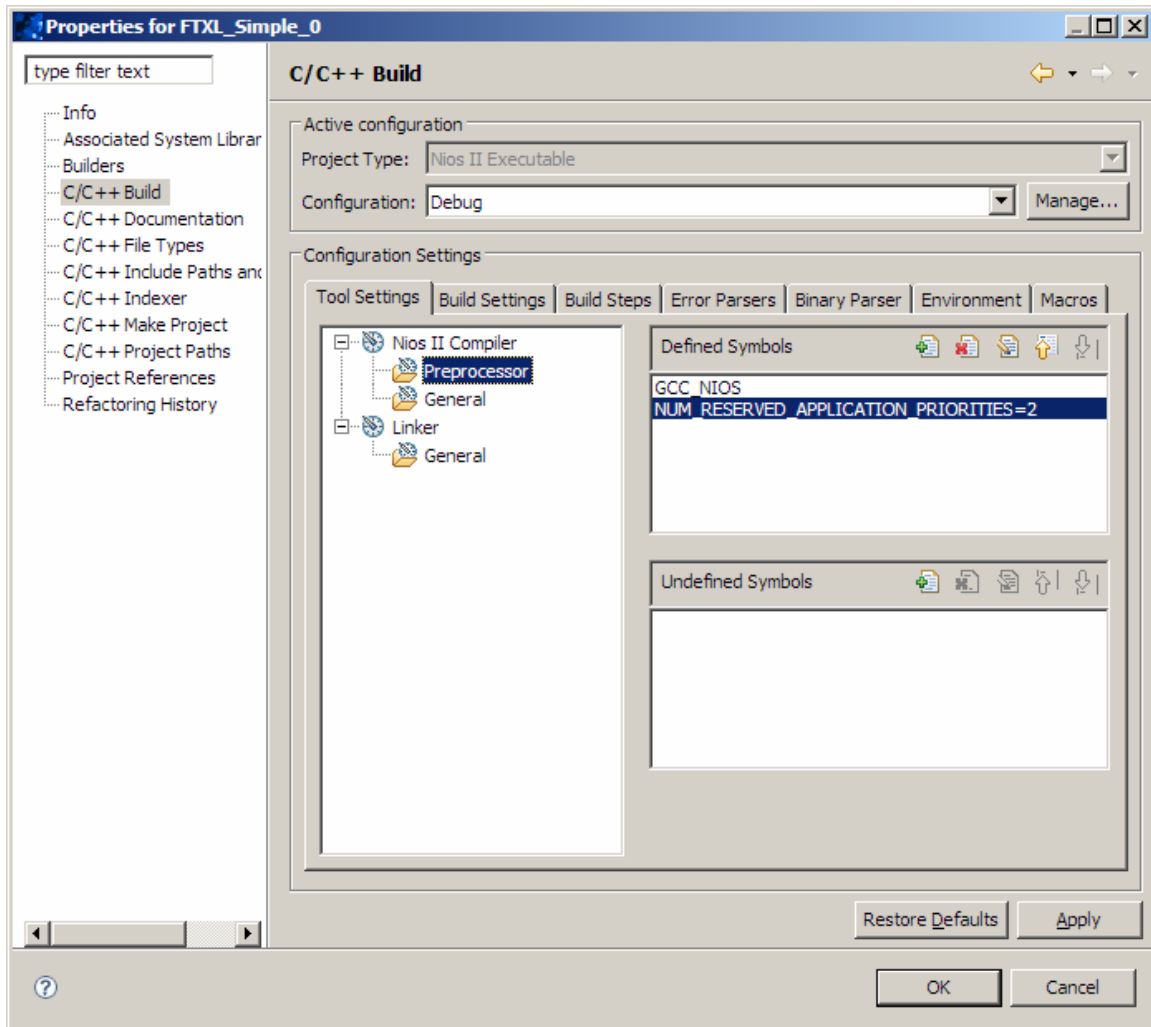

Figure 15. Defined Symbols in the Project Properties Dialog
- Define the **NUM_RESERVED_APPLICATION_PRIORITIES** macro in the defined symbols section of your application project’s preprocessor definitions, as shown in **Figure 15** on page 164.